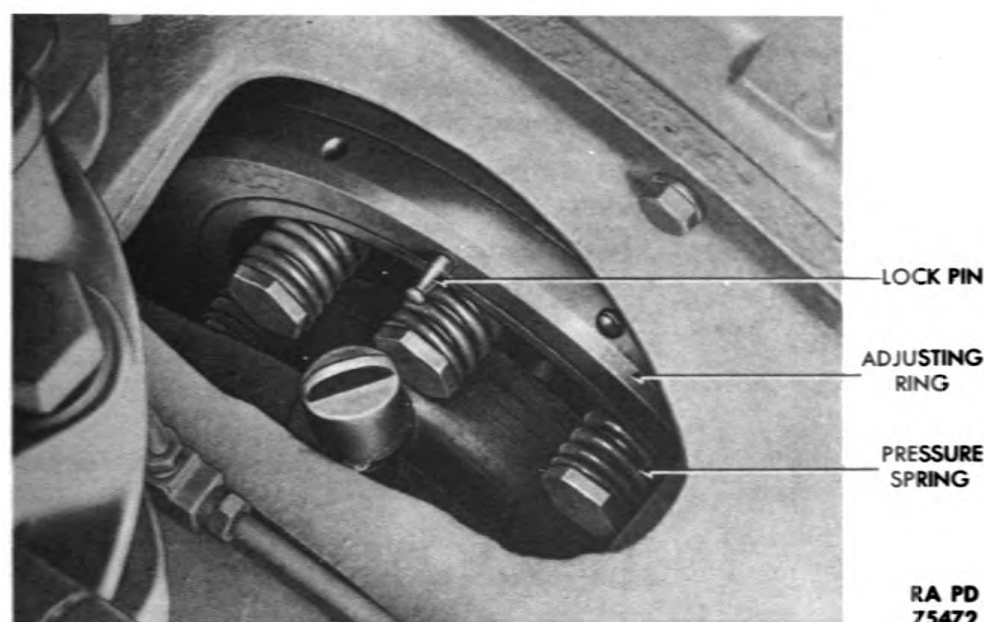

Figure 15 — Adjustment Fittings on Compressor Clutch
b. **Clutch Adjustment** (fig. 15). After considerable wear, the clutch may require adjustment to bring it into proper position. As the clutch wears, the pressure springs which take up wear, reach the limit of their expansion. When this occurs, adjust the clutch as follows: Pull